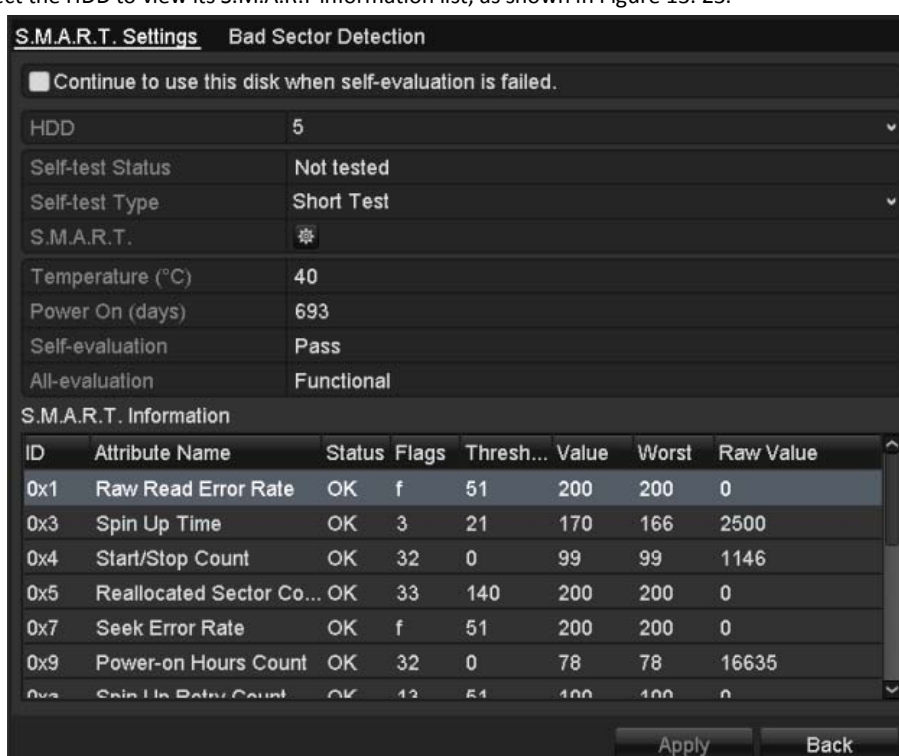

Figure 13. 23 S.M.A.R.T. Settings Interface
2. Select the HDD to view its S.M.A.R.T. information list, as shown in Figure 13. 23.